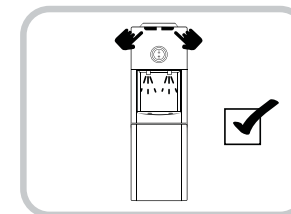

Fig.3
4. Push each water lever (hot and cold temperature) to ensure water is running through the unit. (Fig. 3)